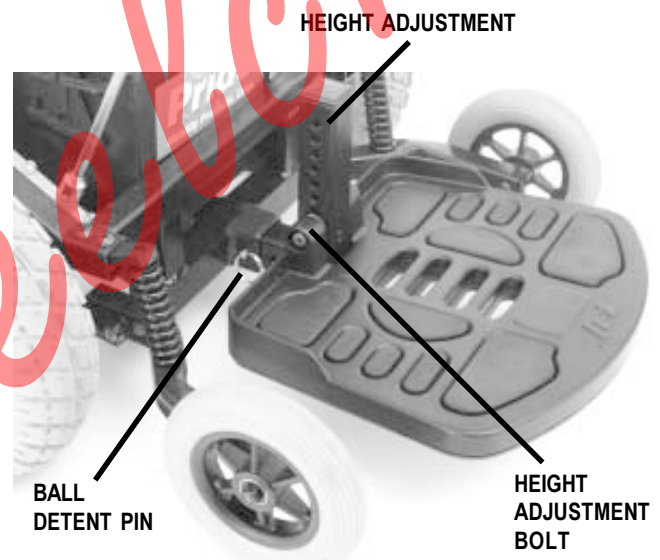

Figure 14. Footrest Depth and Height Adjustment
The footrest height is easily adjusted to any one of six different heights. See figure 14.
2. Raise or lower the footrest to the desired height. See figure 14.
The Jet 3 uses a ball detent pin to fasten footrest to the power base. See figure 14.